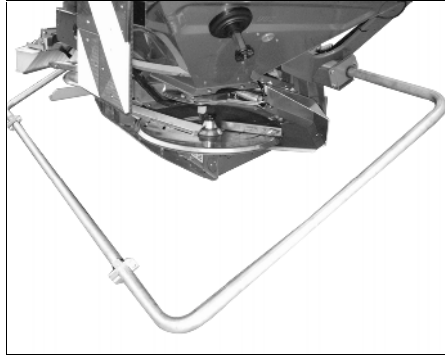

Fig. 50
- Fold upwards the guard tube (Fig. 50).